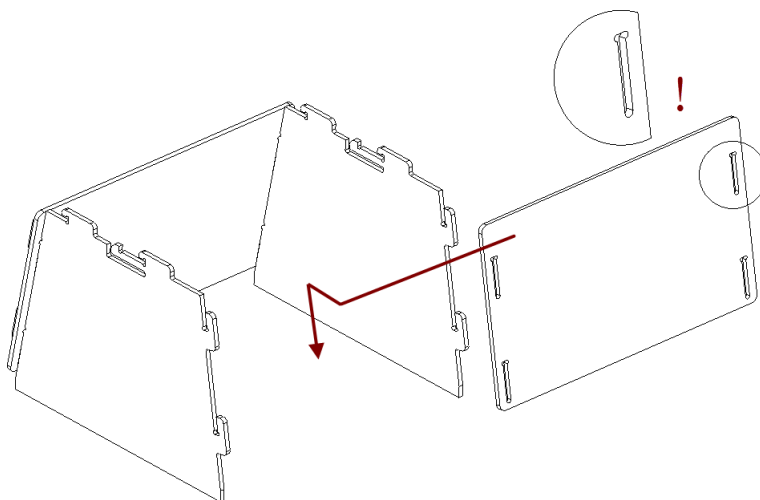

Figure 223: Assembling the back wall.
2. Install the back wall in the same way (see Figure 223).